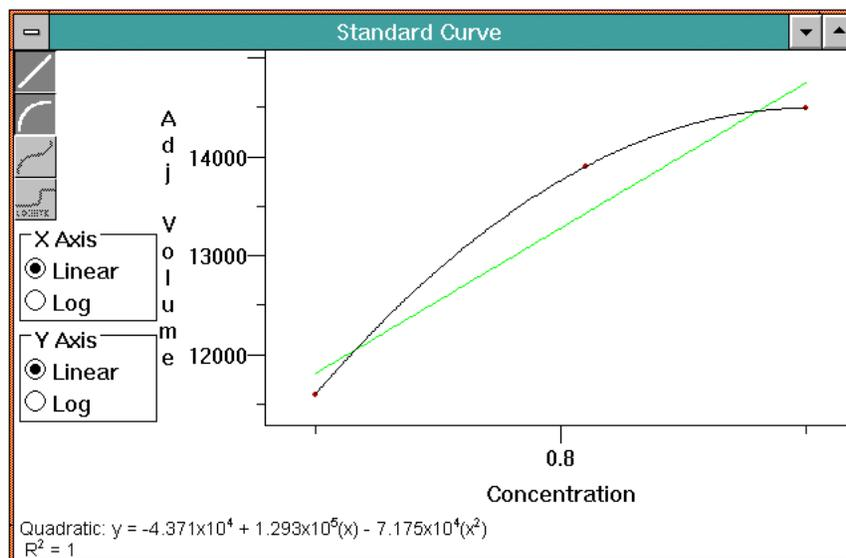

Figure 15. Linear and quadratic regression standard curves
With the volume report displayed, we will now generate a standard curve and calculate the concentration of the unknown as specified by the regression analysis. To generate the standard curve(s) and calculate the value of the unknown, click on the *OPTIONS* menu and select the command *Concentration Standard Curves*. This will display the plot of the standard curve(s) (Figure 15). Notice within the standard curve is a legend with linear, quadratic, cubic, and logistic curve icons, as well as, a legend for logarithmic or linear X and Y axis. Clicking on each icon will display or hide the curves fit. Linear Regression requires a minimum of two (2) standard data points, Quadratic Regression requires a minimum of three (3) standard data points, and Cubic Regression analysis requires a minimum of four (4) standard data points. Four Parameter Logistic Regression analysis requires a minimum of five (5) standard data points. Given 3 standard data points, both a Linear and Quadratic curve will be displayed.